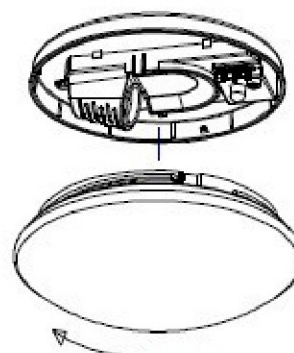

fig.3
8. Fit glass shade and turn it clockwise(see fig.3).